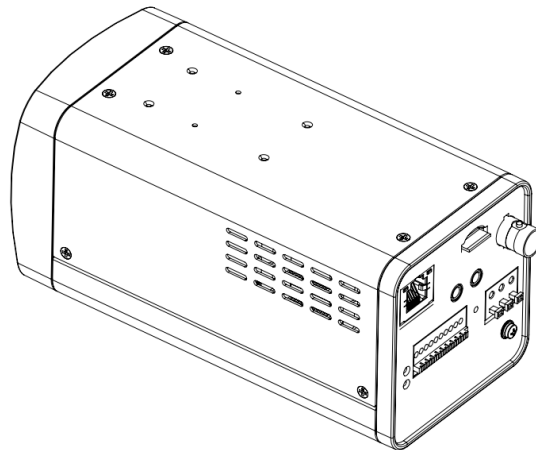

Figure 3-4
- b) Take the SD card out. See and Figure 3-4.